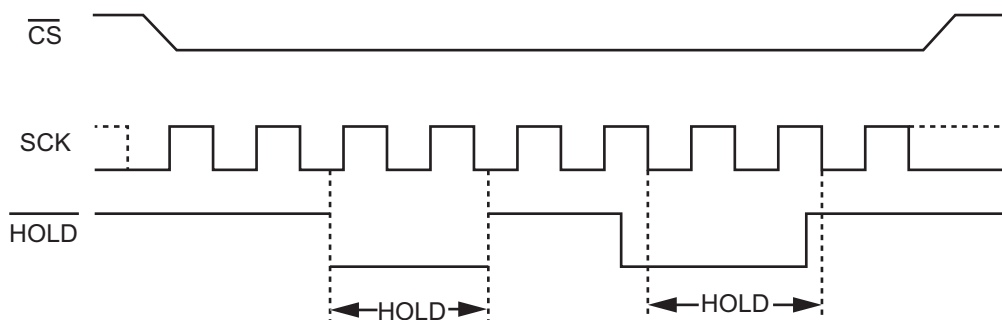

Figure 4: Hold Condition Activation
When $QE=0$, $HOLD/RST=0$, the \overline{HOLD} signal is used to pause any serial communications with the device without resetting the clocking sequence, but does not stop the in-progress operation of write status register, programming, or erasing. During the Hold condition, the Serial Data Output (SO) is high impedance, and Serial Data Input (SI) and SCK are don't care. To enter the Hold condition, the device must be selected, with \overline{CS} low. Normally, the device is kept selected for the whole duration of the Hold condition. Deselecting the device while it is in the Hold condition, has the effect of resetting the state of the device, and this mechanism can be used if it is required to reset any processes that had been in progress. The Hold condition starts when the \overline{HOLD} signal is driven low at the same time as SCK already being low (Figure 4). The Hold condition ends when the \overline{HOLD} signal is driven high at the same time as Serial Clock (SCK) is low. Figure 4 also shows what happens if the rising and falling edges are not timed to coincide with SCK being low.